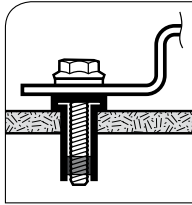

Fig. 7.5. The 5-hole mounting bracket is placed against the flange of the Well-Nut and is secured by the bolt engaging the captive brass nut.
- Fasten the mounting brackets to the roof surface by inserting the $\frac{1}{4} \times 1\frac{1}{4}$ " serrated flange bolt into the Well-Nut (Fig. 7.5). Tighten using a $\frac{3}{8}$ " wrench to a recommended torque of 15 lbs. When the serrated flange bolt is screwed into the Well-Nut, the material surrounding the well nut bulges slightly securing the structure to the RV roof (Fig. 7.6 & 7.8).